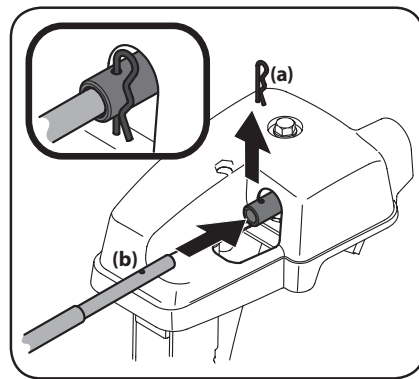

Figure 2-32
4. Remove hairpin clip (a) from rear of chute control assembly. See Figure 2-32.
5. Insert flex shaft (b) removed during Handle Assembly from lower handle into rear of chute directional control head. See Figure 2-32. Secure flex shaft to chute control head with hairpin clip (a) removed in Step 4.